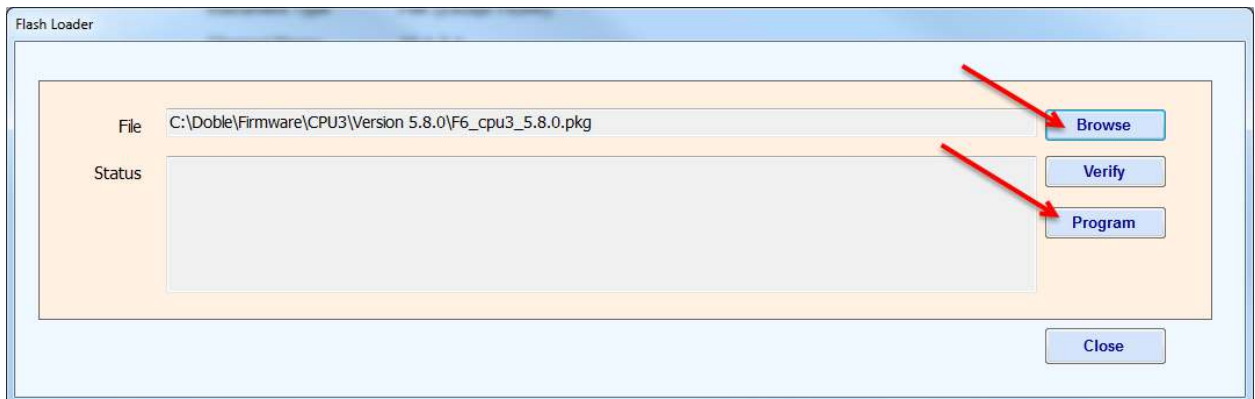

Figure 9. Flash Loader example for F6 CPU3 (Protection Suite 4.2 and later)
26) Observe the Flash Loader, shown in Figure 9